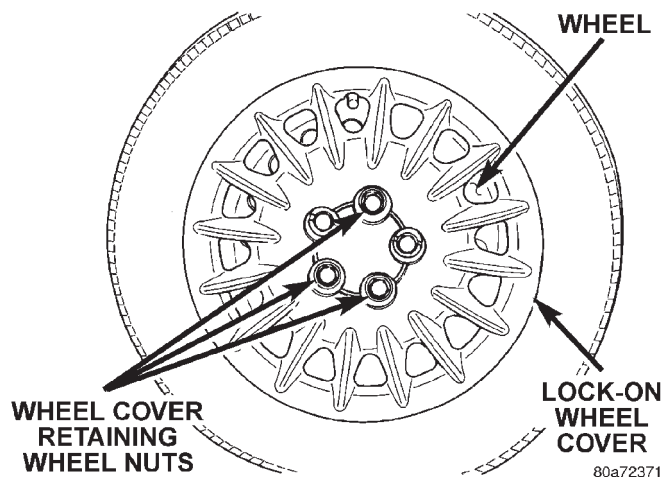

Fig. 3 Lock-On Wheel Cover Retention To Wheel
(1) The wheel cover is locked to the wheel using three of the five wheel nuts (Fig. 3).
This lock-on wheel cover can not be removed from the wheel until the three wheel nuts (Fig. 3) are removed. Then the lock-on wheel cover can be removed with the remaining two wheel nuts remaining tightened.